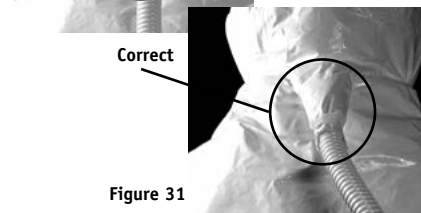

Figure 31
4. Engage clamp locks and squeeze together until tight. Air entry sleeve should not be twisted or restricted (see Figure 31). If so, then remove the clamp and repeat steps 2-4.